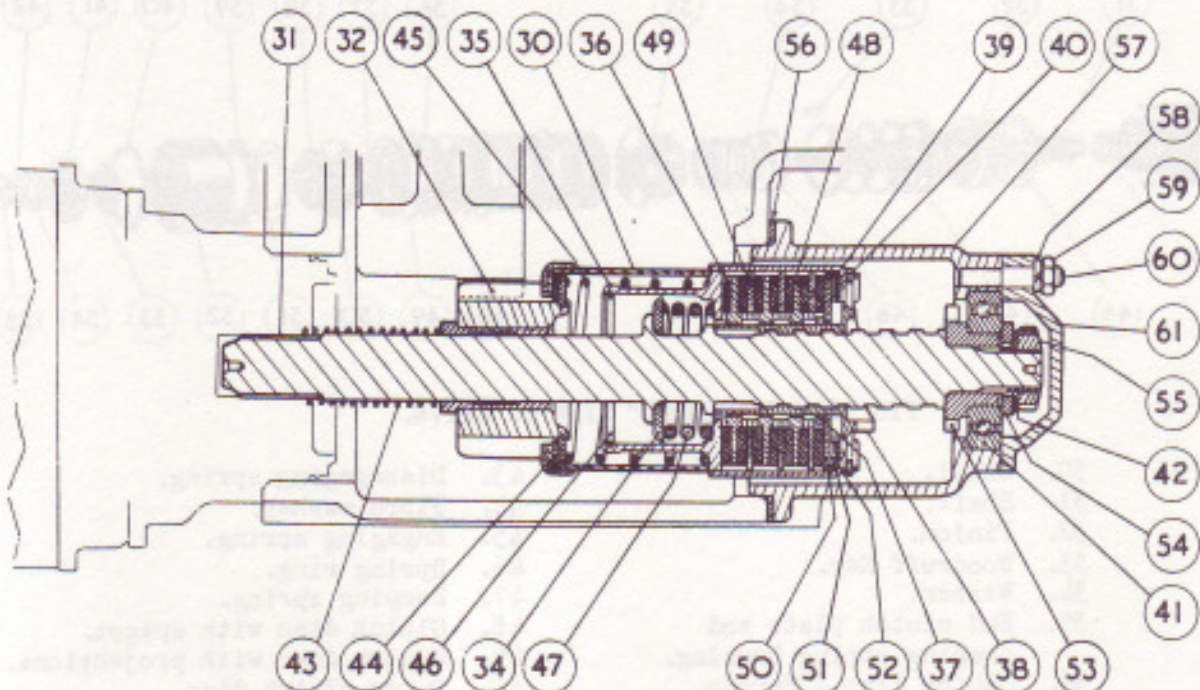

FIG. 17. SECTION THROUGH DRIVE IN ENGAGED POSITION. (A Vellumoid washer is fitted each side of the packing piece 56 on late chassis.)
- (i) Remove the small aluminium cover (61, Fig.17) secured by 3 nuts and spring washers.
- (ii) Mount the drive vertically in a vice, holding it by means of fibre vice clamps on the splined end of the shaft and after bending back the tab of the lock washer (42), unscrew and remove the slotted ring nut (55) and then remove the lock washer and plain washer (54). Remove from vice.